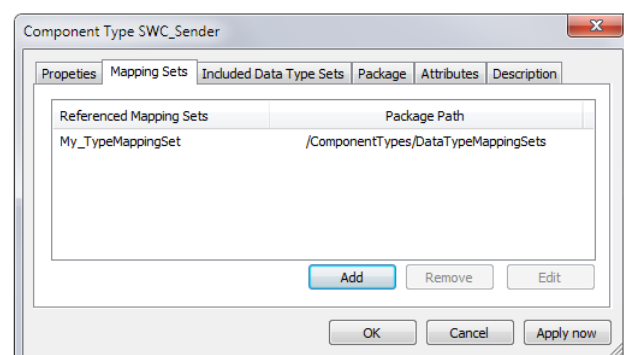

Figure 4-53 Type mapping set reference for mode request
- The type mapping set is referenced by the SWC (Figure 4-53).